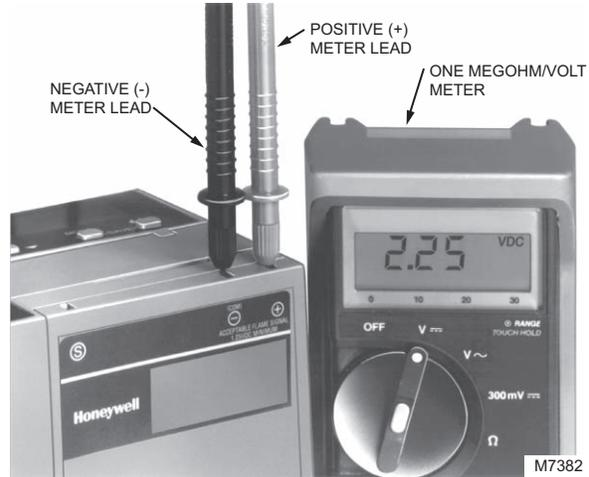

Fig. 8. Measuring flame signal voltage of 7800 SERIES control.
2. Insert the positive (red) meter probe into the positive (+) jack of the 7800 SERIES control amplifier and the negative (black) probe into the negative (-Com) jack of the amplifier (see Fig. 8).